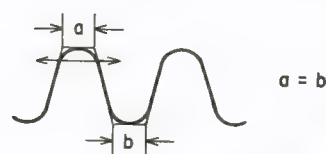

Fig. 6-4 TP1, 2 Waveform
- 4) Next, connect an oscilloscope to TP2 and adjust VR3 so that the duty of the waveform is 50% as shown in Fig. 6-4.
- 5) Next, connect an oscilloscope to TP1 and adjust VR2 in the same manner as item 3).